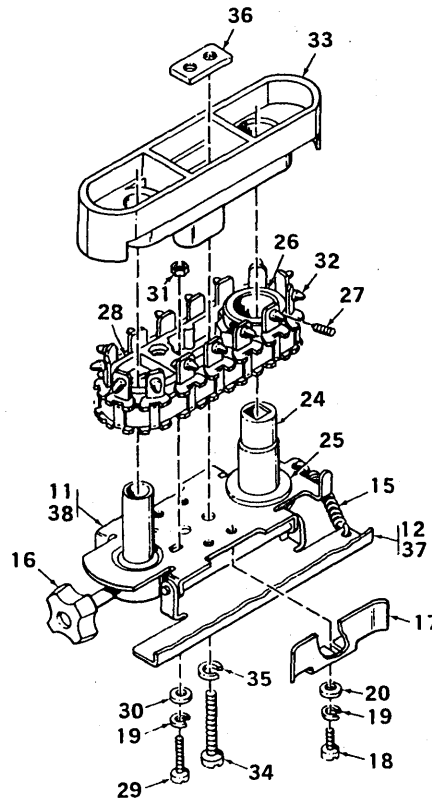

Figure 5-10. REMOVAL OF BELT (32) IDLER SLIDE (28), AND DRIVE PULLEY (26)
The following removal/replacement procedure (Fig. 5-10) applies to either a left or right pin feed unit. But where there is a part difference, key numbers will be indicated in the text so that the operation being applied will cover both units.
2. Orient unit so that spring (15) is at bottom of unit while being held in hand. Paper holder gate (12, 37) is closed.
3. Rotate belt (32) by hand, and locate two set-screws (27) between pins on drive pulley (26) for drive sleeve (24) at bottom of unit.
- a. Insert a 1½ mm allen-wrench, and loosen two set-screws (27).
4. Loosen two screws, washers (18, 19, 20) holding the pin attachment guide (17) on the pin feed holder (11, 38).
- a. Open gate (12, 37) and slide pin attachment guide (17) outward so that when belt is compressed each side, the clearance between belt and guide is approximately ¼-in. (6.3 mm) (not critical).
5. Using a medium sized slotted head screwdriver, remove two screws, lockwashers (34, 35) and plate nut (36) holding pin feed holder (11, 38) and belt guide (33) together.
6. Separate and remove belt guide (33) from remaining portion of pin feed unit. Keep sleeve (24) in position.
7. Remove two screws, lockwashers (29, 19, 30) and recessed nut (31) holding the idler slide (28) to the pin feed holder unit (11, 38). Keep sleeve (24) in position.
8. Lay unit on bench with gate (12, 37) open. The set plate (21) is facing downward, the sleeve (24) is projecting upward, (See Fig. 5-10). (Set plate is now shown).
4. Set left pin feed holder (11) flush to right side of stopper (5), and tighten lock-knob (16).
C. PIN ATTACHMENT GUIDE (17)(LEFT AND RIGHT)(FIG. 8-10),(FIG. 5-10)